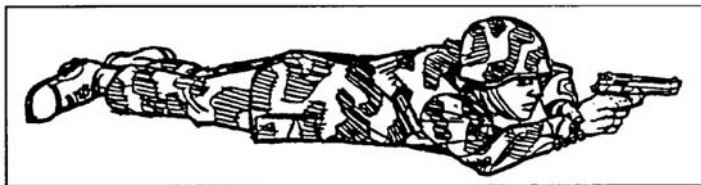

Figure 071-004-0006-6. Prone position
b. Standing-with-support position (figure 071-004-0006-7). To assume this position—
- (1) Use available cover for support. For example, stand behind a tree or a wall.
- (2) Stand behind a barricade with your firing side in line with the edge of the barricade.
- (3) Place the palm of your nonfiring hand at eye level on the edge of the barricade, and extend your thumb past the edge of the barricade.
- (4) Lock the elbow of your firing arm. Rest your forearm on the extended thumb of your nonfiring hand.
- (5) Move the foot on your nonfiring side forward until your toe touches the bottom of the barricade.